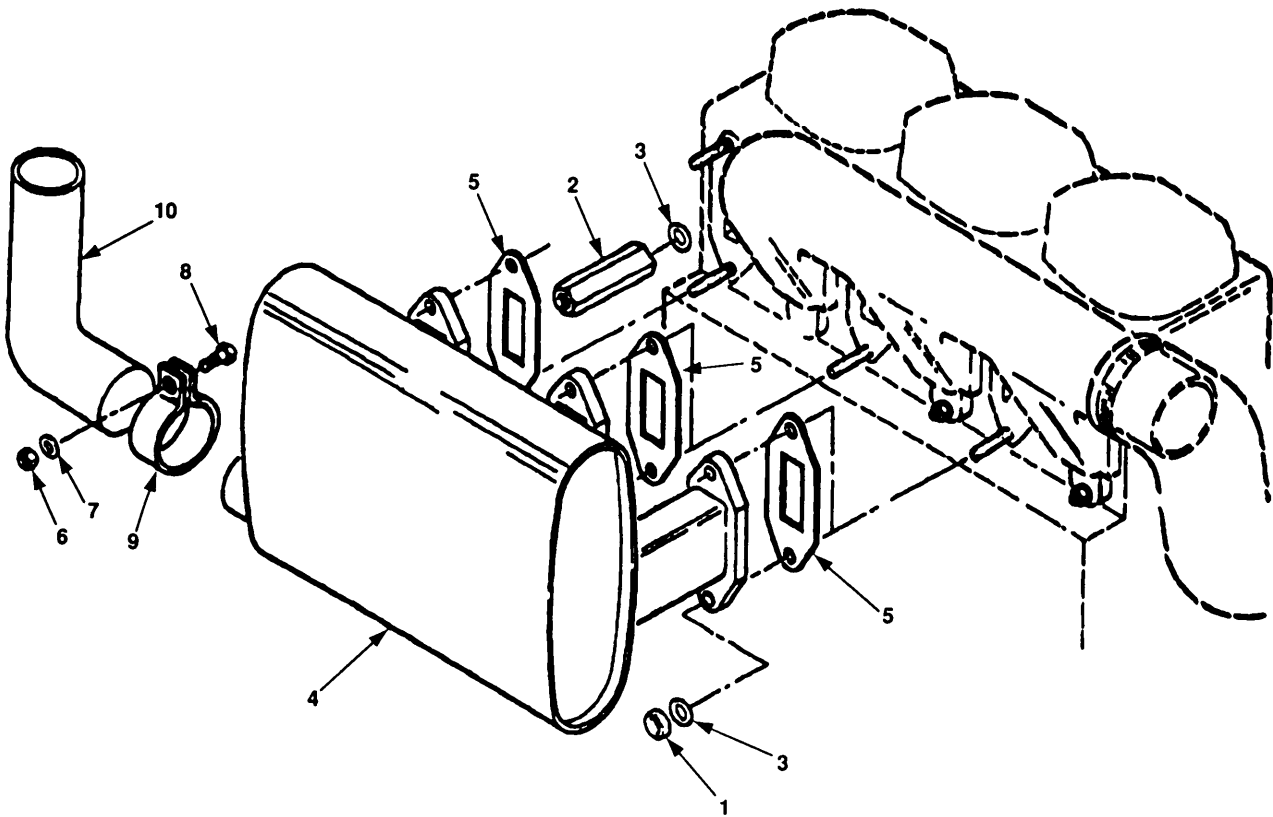

Figure 4-4. Exhaust Pipe Maintenance.
- a. Remove five nuts (figure 4-4, 1), one post (2) and six washers (3) that secure muffler (4) to engine. Retain all parts removed.
- b. Carefully remove muffler (4) from studs.
- c. Remove and discard three gaskets (5).
- a. Loosen nut (figure 4-4, 6), lockwasher (7) and bolt (8) that secures clamp (9).
- b. Remove exhaust pipe (10) and clamp (9) from muffler (4).